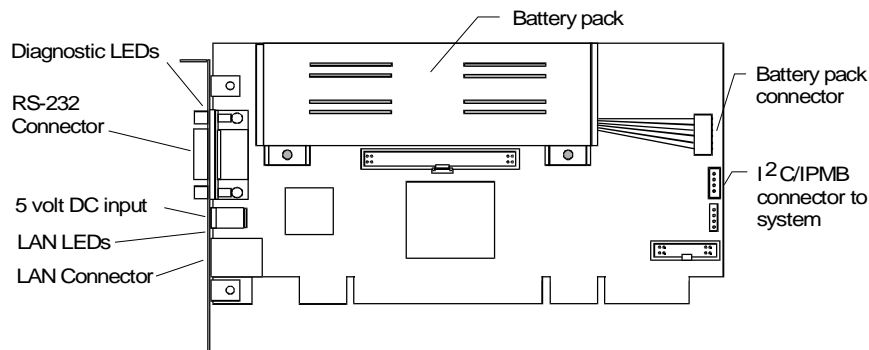

Figure 1-1. HP TopTools Remote Control PCI Card Connectors
1. Mount the battery pack on the HP TopTools Remote Control PCI card and connect the battery cable to the battery pack connector (see Figure 1-1).